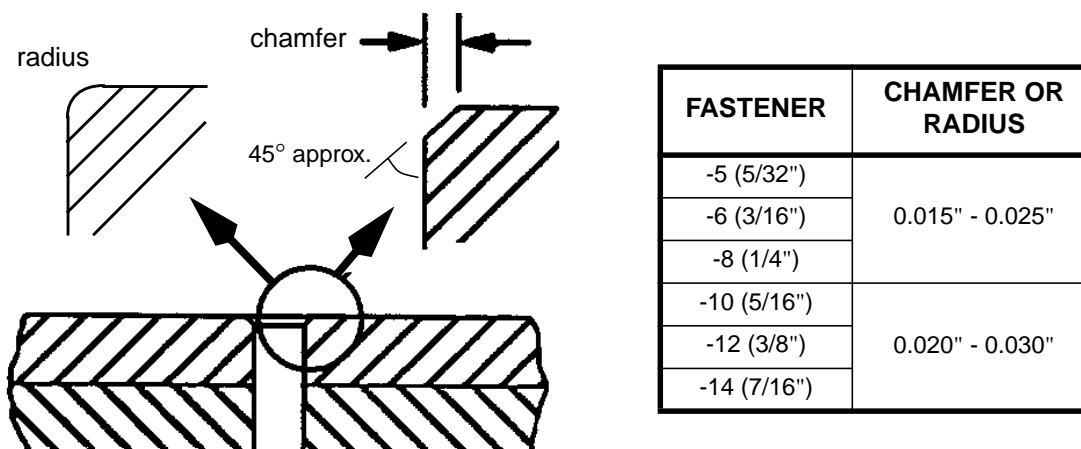

Figure 7 - Edge Break
Step 4. For protruding head fasteners, manually break the edge of the hole to create a slight chamfer or radius as shown in Figure 7 according to PPS 27.05.
- Step 6. For flush head fasteners, countersink the starting hole (and other holes, if necessary) using a micro-stop countersink according to PPS 1.33. For protruding head fasteners, manually break the edge of the hole on which the fastener head will seat as shown in Figure 7 according to PPS 27.05.